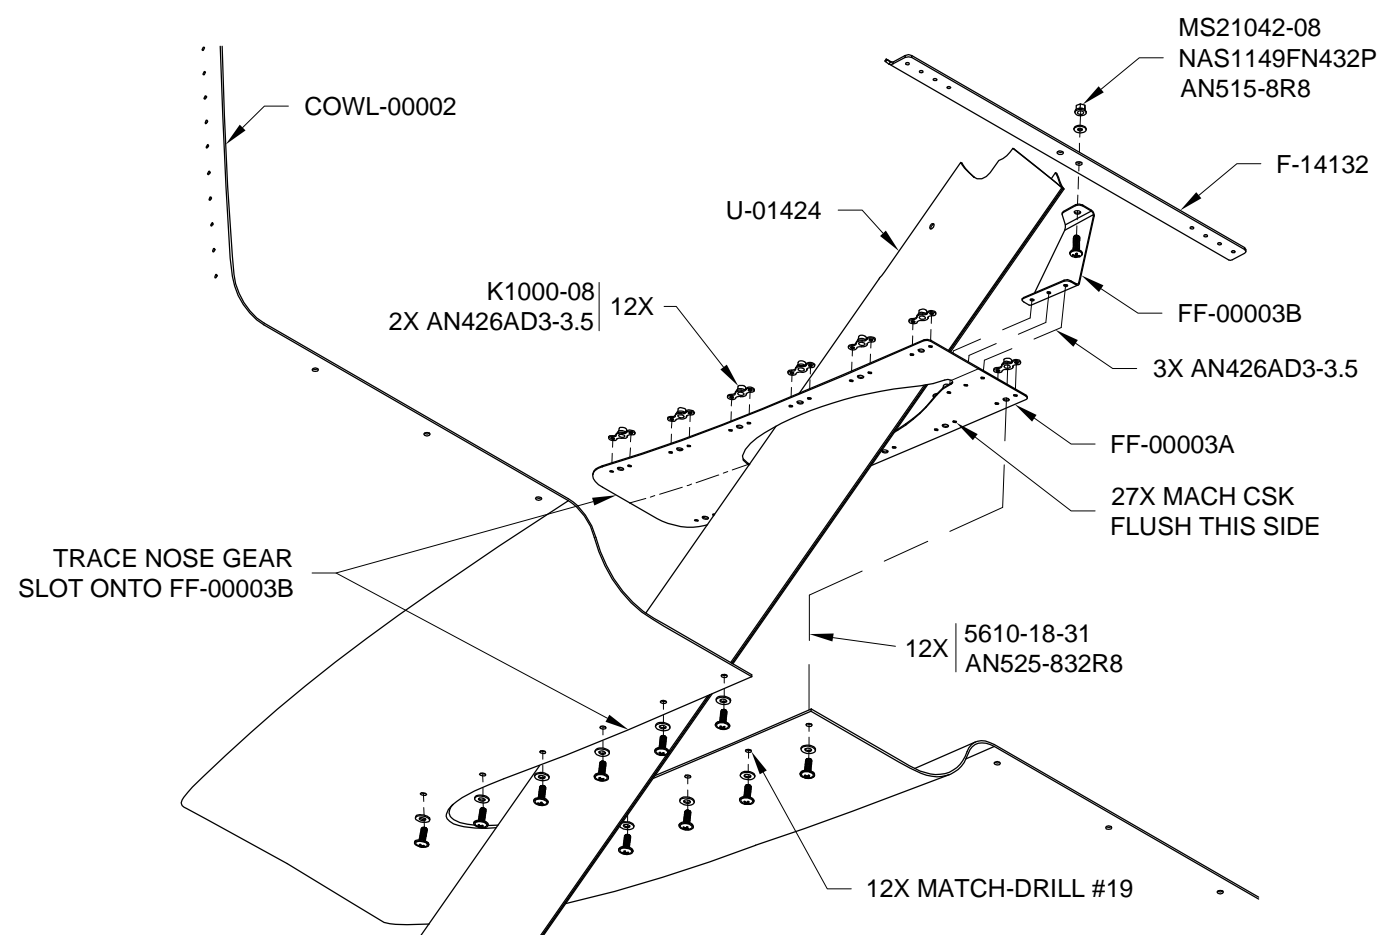

FIGURE 2: INSTALL BOTTOM COWL CLOSE-OUT
Step 16: Machine countersink all of the rivet holes in the FF-00003A Bottom Cowl Close-Out as shown in Figure 2.
Step 17: Rivet the nutplates to the FF-00003A Bottom Cowl Close-Out as shown in Figure 2.
Step 19: Install the FF-00003A Bottom Cowl Close-Out and FF-00003B Bottom Cowl Support Bracket to the F-14132 Tunnel Angle using the hardware shown in Figure 2.
Step 20: Install the COWL-00002 Bottom Cowl on the aircraft. Attach the FF-00003A Bottom Cowl Close-Out to the bottom cowl using the hardware shown in Figure 2.